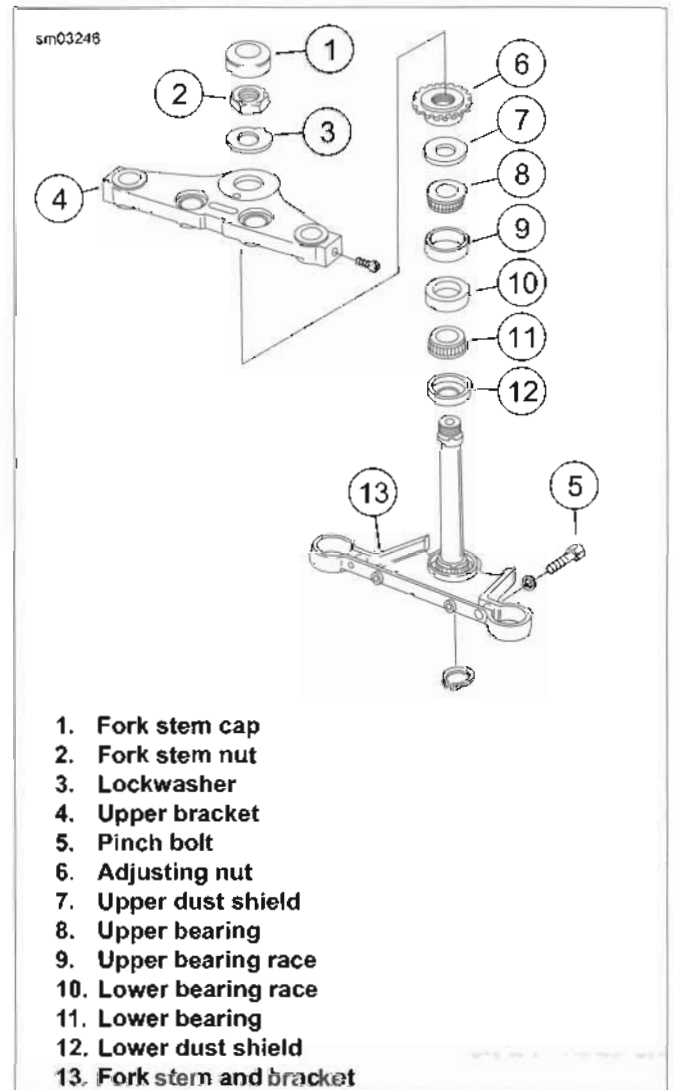

Figure 2-84. Steering Head: FXST
3. See Figure 2-84. Remove the brake hose bracket from the bottom of the fork stem and bracket (13).
4. Remove the fork stem cap (1). Remove the fork stem nut (2) with the handlebar and upper bracket (4) as an assembly.
5. Remove the adjusting nut (6) and pull the fork stem and bracket (13) out of the steering head.
6. Remove the upper dust shield (7) and upper bearing (8) from steering head.
1. See Figure 2-84. Insert the fork stem bracket assembly (13) (with lower dust shield and bearing) into the frame steering head and install the upper bearing (8) and dust shield (7). Secure with the adjusting nut (6).
2. Install the upper bracket (4), a **new** lockwasher (3), and fork stem nut (2). Be sure pin on lockwasher is engaged in upper bracket hole.